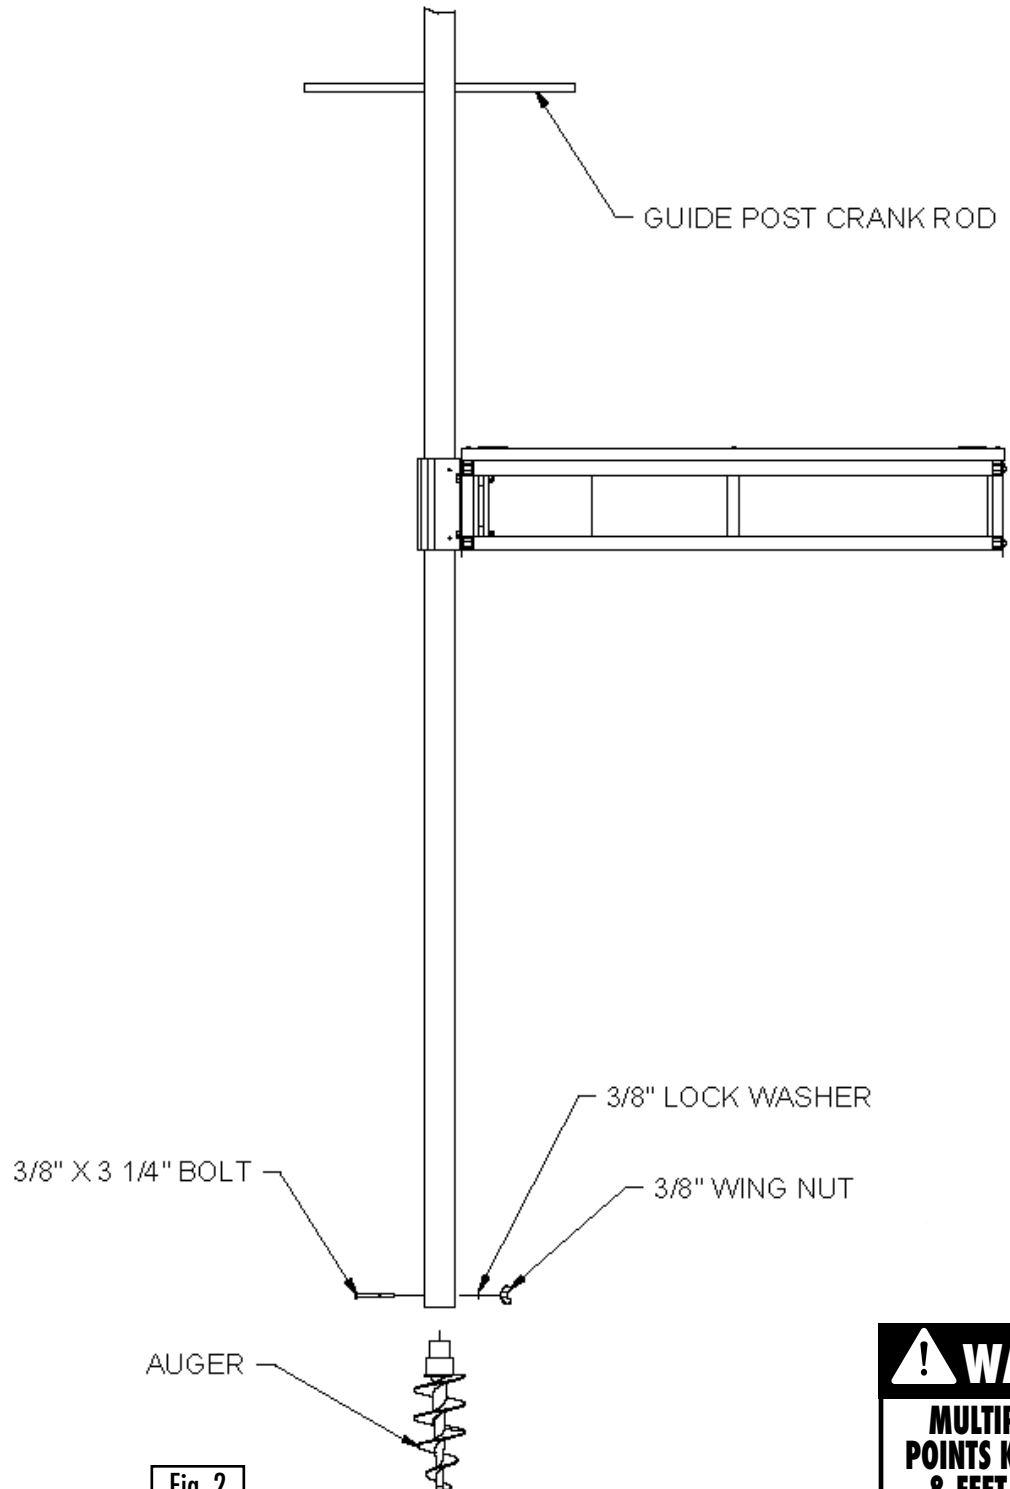

Fig. 2
- Attach the auger using the 3/8" x 3-1/4" bolt, lock washer, and wing nut. Shown in Fig. 2